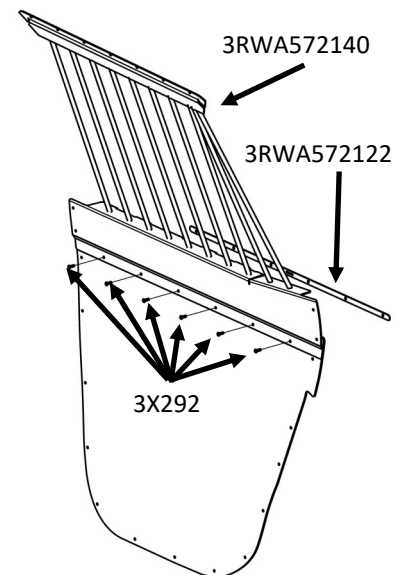

Figure 14
1. Assemble Window Bar [3RWA572150] to Door Panel [3DRP572154] using the Door Panel Nut Plate [3RWA572122] and (6) #8 screws [3X292]. (Fig. 14)